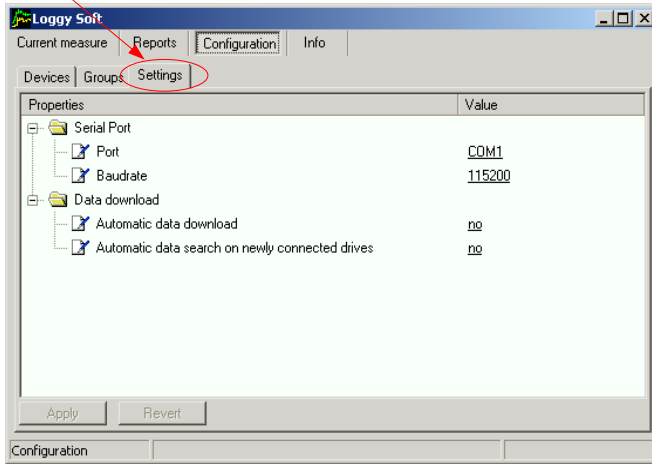

Fig. 3.15. Configuration - Settings tab
**Settings** tab (Fig. 3.15) allows to change settings related to serial port and method of data downloading from the USB FlashDisk. The settings list contains following fields: